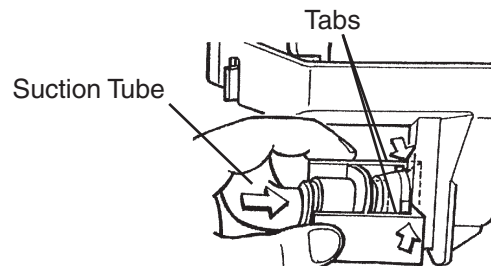

Fig. 37
- 4) Reconnect the suction tube as illustrated. See Fig. 37. Make sure the tabs lock into place; a loose fitting may cause a water leak.